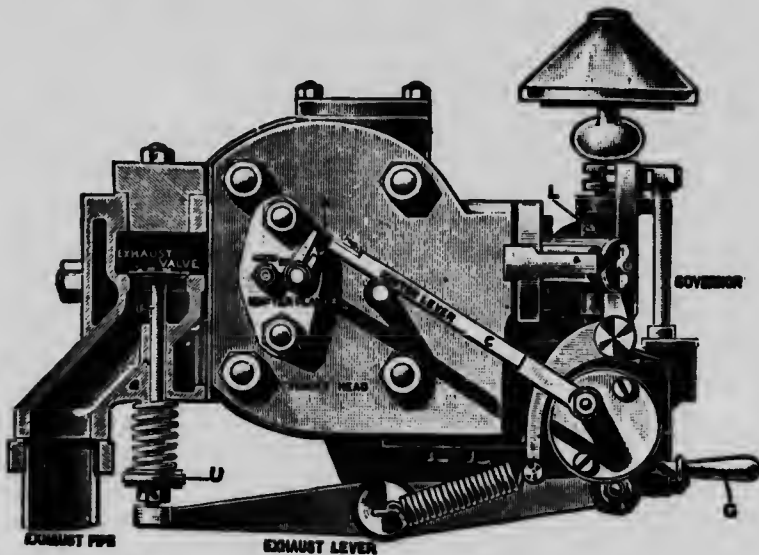

FIG. 57.
*Exhaust Valve.*—(See Fig. 57.) This valve is also of
The movable electrode is operated by the igniter lever C (see Fig. 57), which, pushing against the piece M, brings the two platinum pieces together and starts the current flowing. The action of the spring N separates them.